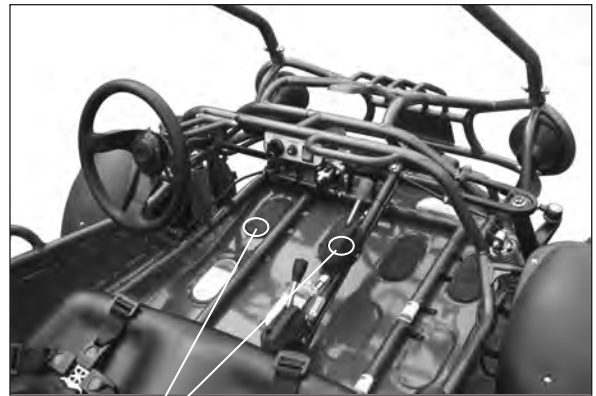

Figure 5
- e. To prevent vehicle from rolling over, be sure to only turn the vehicle at a slow more controllable speed. Heel on the ramp of the main board when turning. (See Fig.5) Keep your leg rely on the foot pedal, you can feel the kart is stable because of the gravity is adjusted and won't roll over.